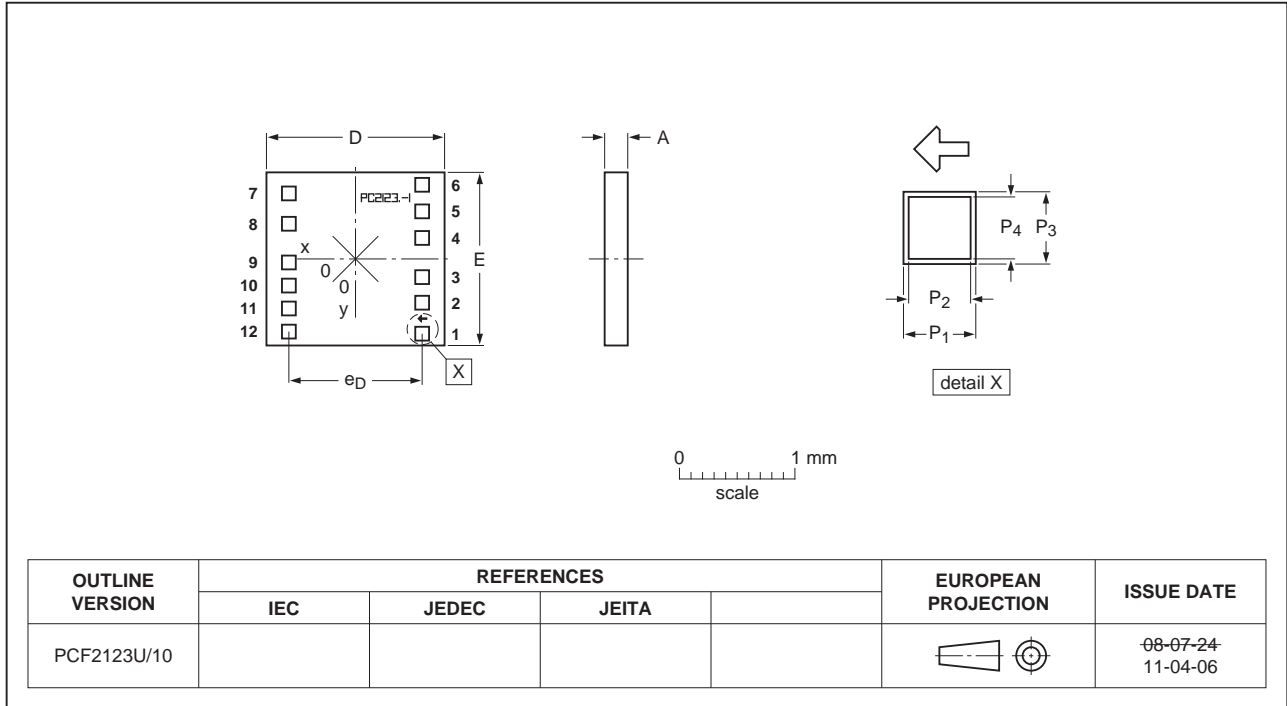
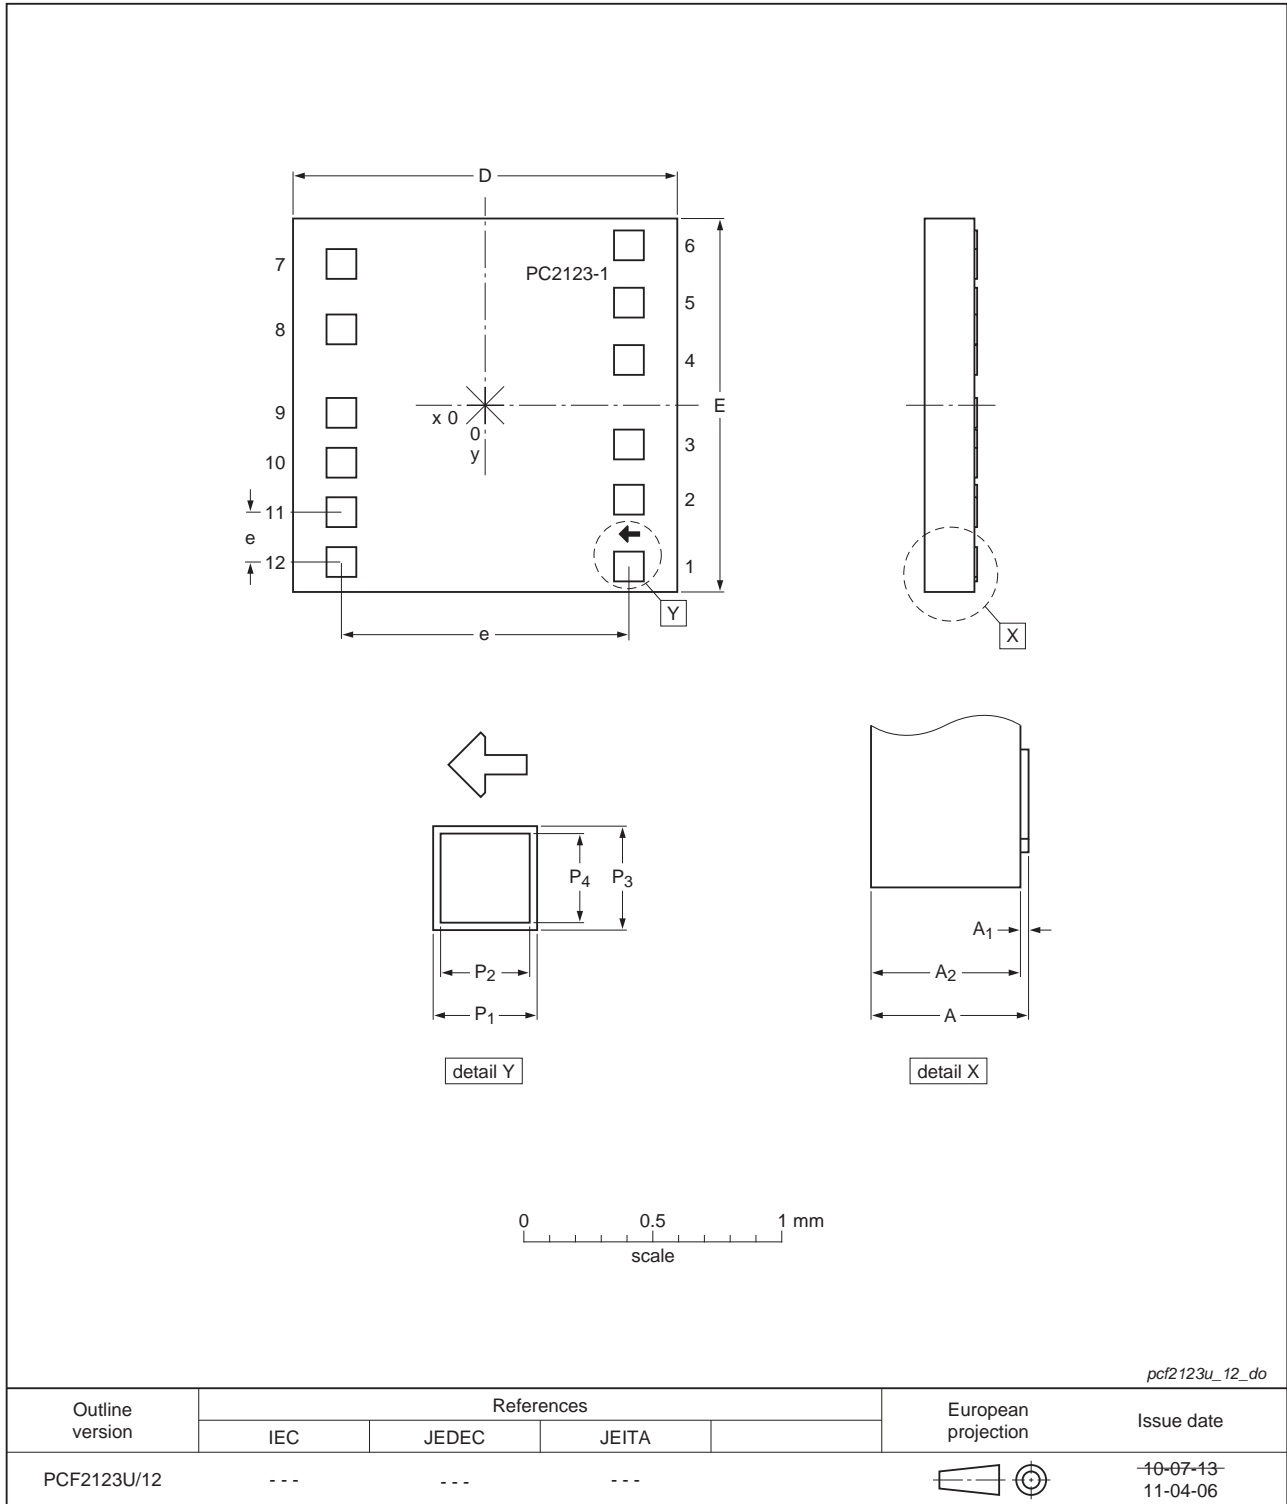
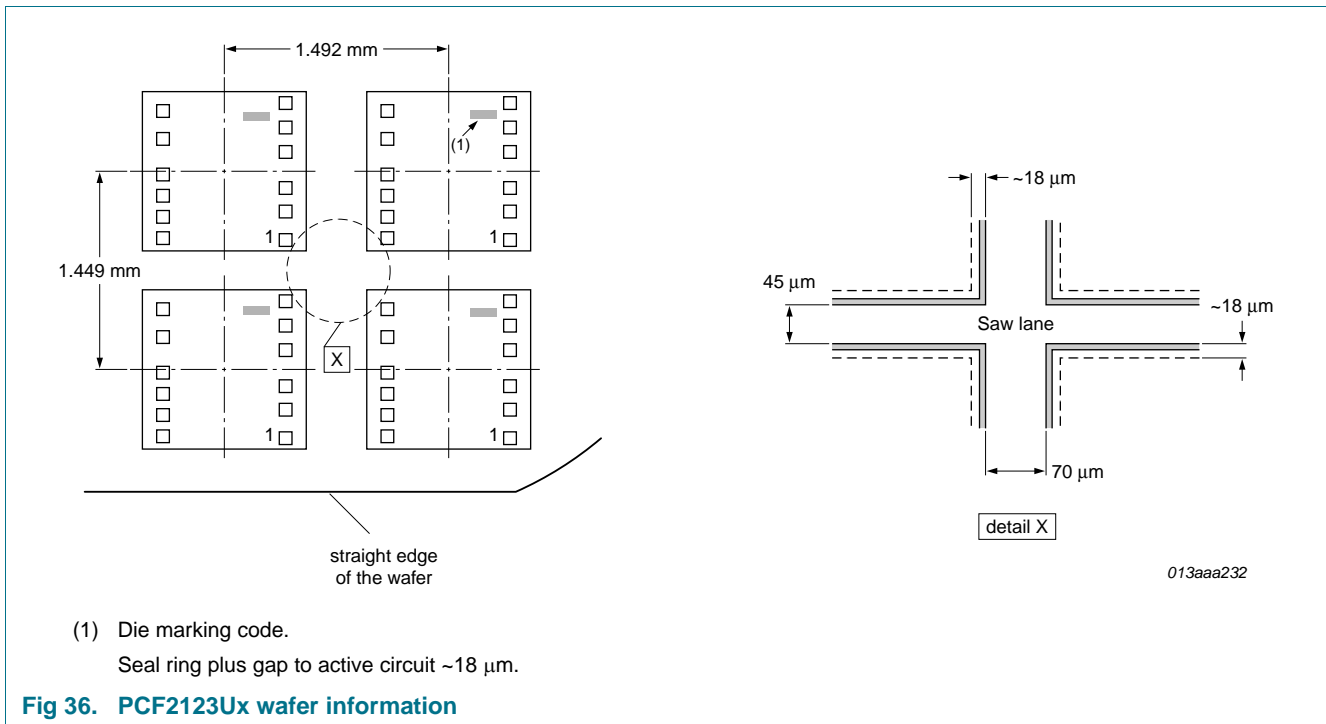

Fig 33. Bare die outline PCF2123U/10 of PCF2123U/5GA/1 and PCF2123U/10AA/1 (for dimensions see Table 47)
Fig 34. Bare die outline PCF2123U/12 of PCF2123U/12AA/1 and PCF2123U/12HA/1 (for dimensions see Table 48)
**Fig 35. Alignment mark**
All x/y coordinates represent the position of the center of each pad with respect to the center (x/y = 0) of the chip; see Figure 33 and Figure 34.
- [1] The x/y coordinates of the alignment mark location represent the position of the REF point (see Figure 35) with respect to the center (x/y = 0) of the chip; see Figure 33 and Figure 34.
- [2] The x/y values of the dimensions represent the extensions of the alignment mark in direction of the coordinate axis (see Figure 35).